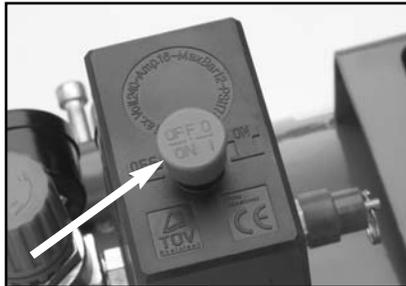

Figure 4. ON/OFF button.
1. Make sure the compressor switch is in the *OFF* position (knob with red cap above pressure gauges shown in **Figure 4** pressed down) before connecting the power supply.